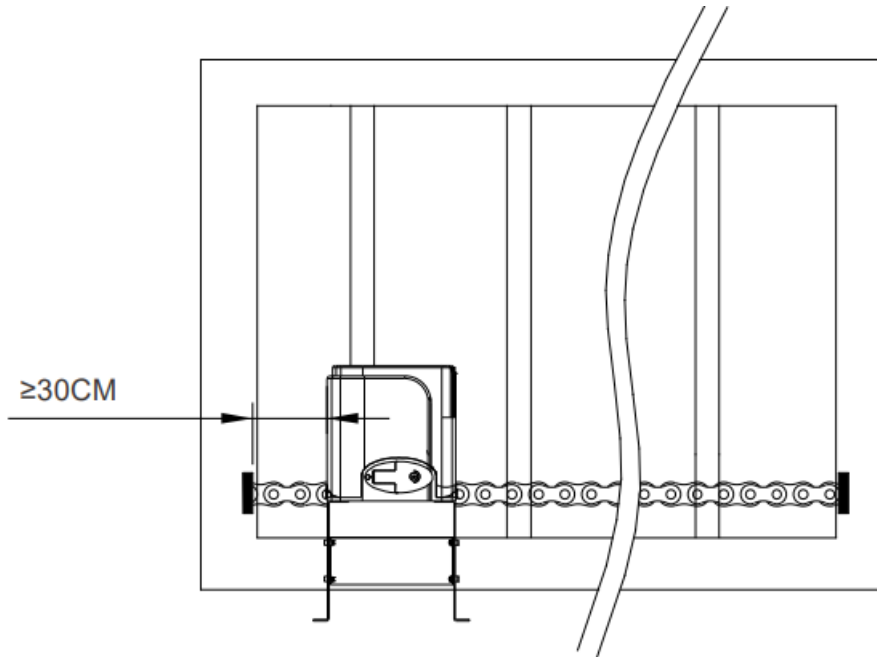

Figure 12
- The distance between main engine and chain ends should be at least 11.8 in. (30 cm), as shown in Figure 12: